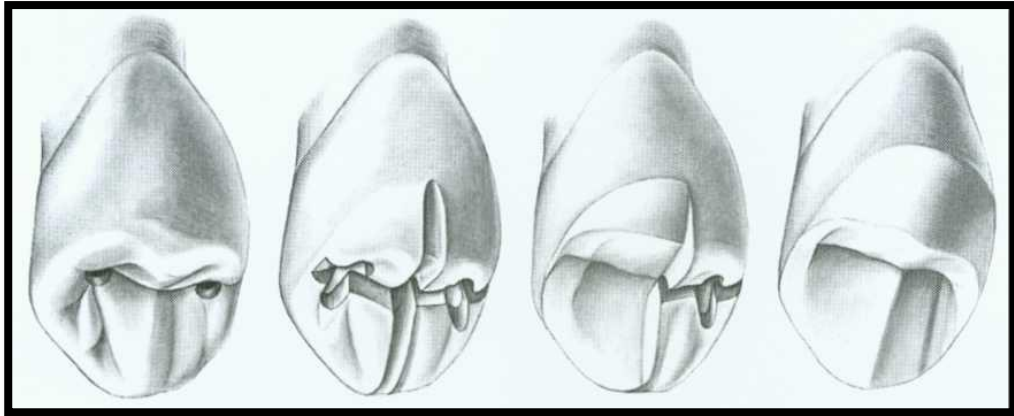

Fig3. occlusal prep. of The maxillary premolar three-quarter crown.
1. Place depth orientation grooves on the anatomic ridge and grooves of occlusal surface with a round end tapered fissure diamond, the groove should extend through occluso-buccal line angle but only with 0.5mm deep to prevent metal display .as shown in the fig3. below: